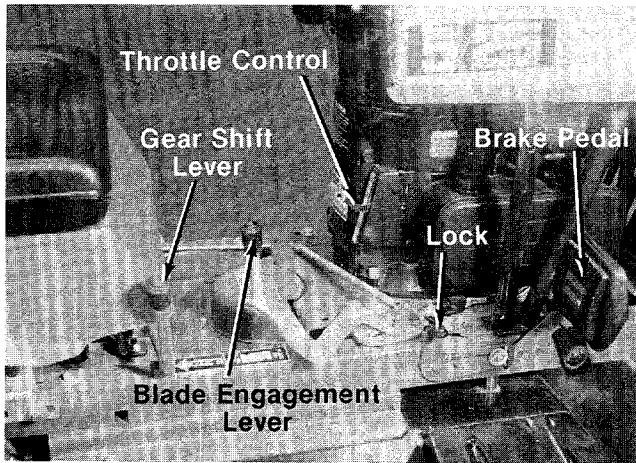

FIGURE 11.
A. Throttle Control actuates the butterfly in the carburetor and may be set at "CHOKE", "FAST" or "SLOW." See figure 11.
D. The Blade Engagement Lever engages and disengages the blade. Pull the Blade Engagement Lever back to stop the blade. Move the Blade Engagement Lever forward to engage the blade. See figure 11.
E. The Gear Shift Lever is used to select either forward or reverse. See figure 11.
G. The Brake Pedal is operated with your right foot and is used to stop the forward or reverse motion of the rider. To engage the brake, depress the Brake Pedal with your right foot. To set the parking brake, depress the brake and lift the lock. To release, depress the brake pedal. See figure 11.
3. Depress the Brake Pedal and lock it down with lock. See figure 11.
5. Place the Gear Shift Lever in "NEUTRAL" (N) position. See figure 11.
6. Place the Blade Engagement Lever in the "OFF" disengaged position. See figure 11.
7. Place the Throttle Control Lever in the "CHOKE" position. See figure 11.